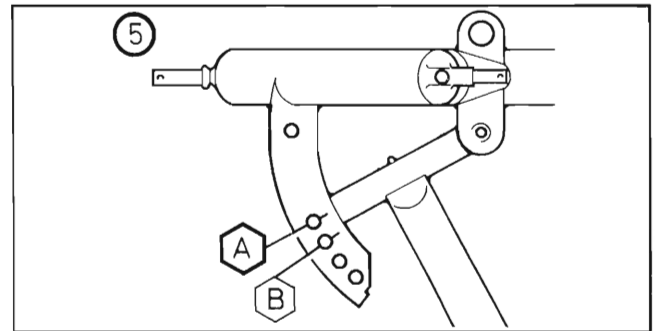

Fig. 28
2. For the remainder of the field, the Rake should be operated with the Main Frame in position (A) or (B) (Fig. 28).